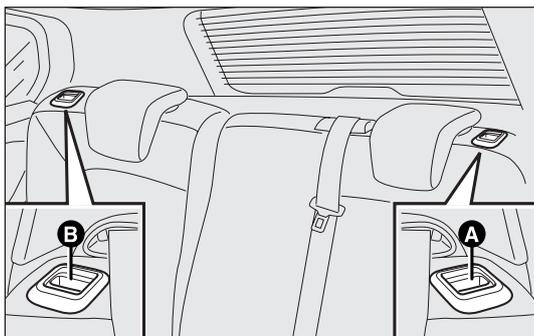

fig. 93
- lift handle A or B-fig. 93 to release either the left or right part of the backrest and guide the backrest down onto the cushion.